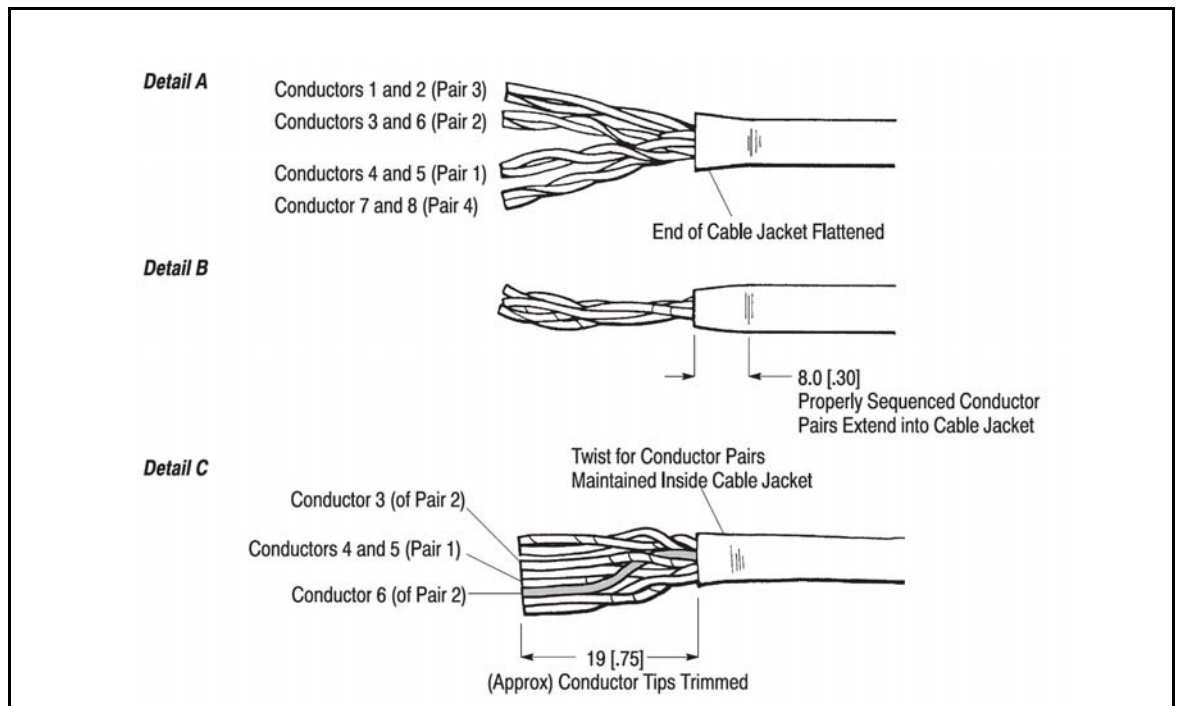
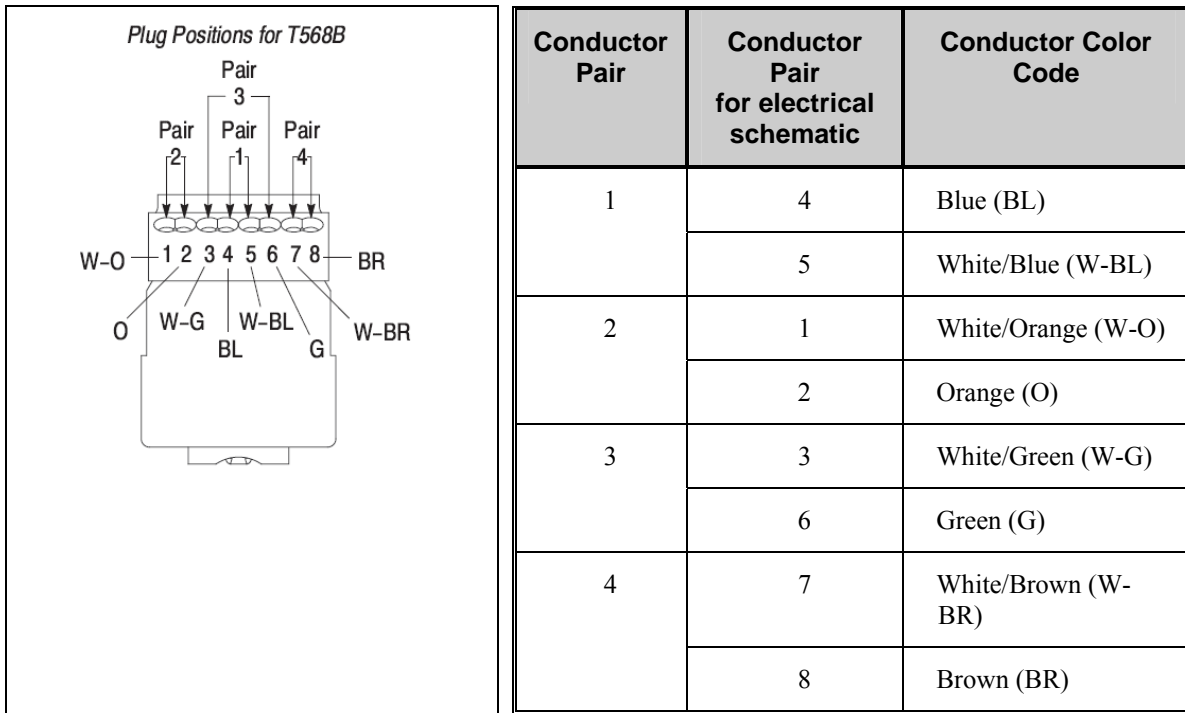

Figure D-4: Cable Preparation Continued
Figure D-5: Cable Preparation Continued
- Conductor pairs must be oriented side-by-side in the order shown in Figure D-4, Detail A. The end of the cable jacket must be flattened so that the conductor pairs lay side-by-side.
- Properly sequenced conductor pairs should extend into the cable jacket to the dimension given in Figure D-4, Detail B, creating an oblong shape.
- The conductor tips must be trimmed evenly to the dimension shown in Figure D-4, Detail C. Proper orientation of conductors must be maintained.
- The conductor pairs must be untwisted and arranged according to EIA/TIA T568B (defined in Figure D-5). IT IS CRITICAL that the pairs are NOT untwisted inside the cable jacket.
When arranging conductor pairs, IT IS IMPORTANT that Conductor 6 is crossed over Conductors 4 and 5 as shown in Figure D-4, Detail C.
- Position the pairs according to the Wiring Diagram shown in Figure D-5. Try to avoid twisting between pairs as much as possible, see Figure D-4.